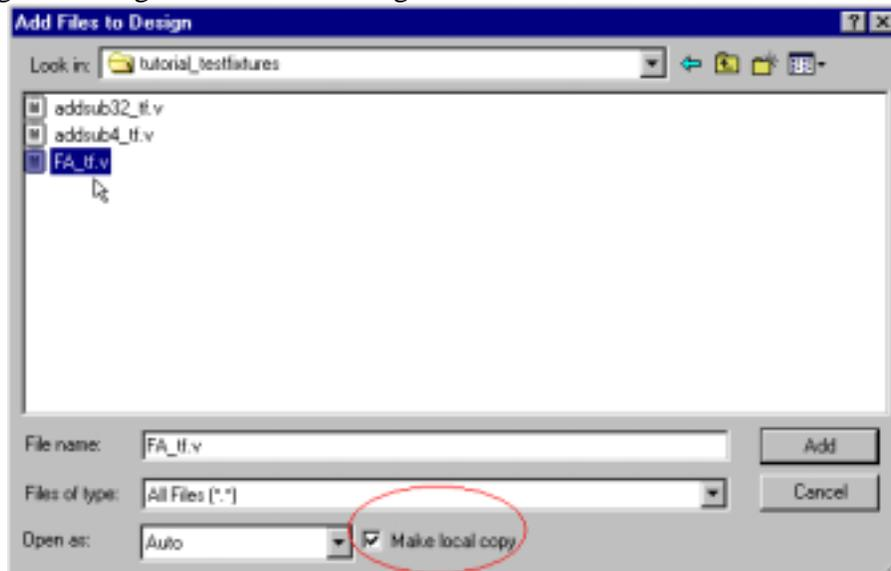

Figure 2
3. Navigate to the class folder, which contains these files, check the “Make local copy” box, and add the test fixture for the full adder (See Figure 2). Notice it is added to the design hierarchy in the Design Browser. We use the naming convention: <design name>_tf.v to name test fixtures so that it is easy to associate test fixtures with the components they test. If you choose different names for your full adder and 4-bit adder/subtractor, make sure you rename these test fixtures by right-clicking the file in the Design Browser.